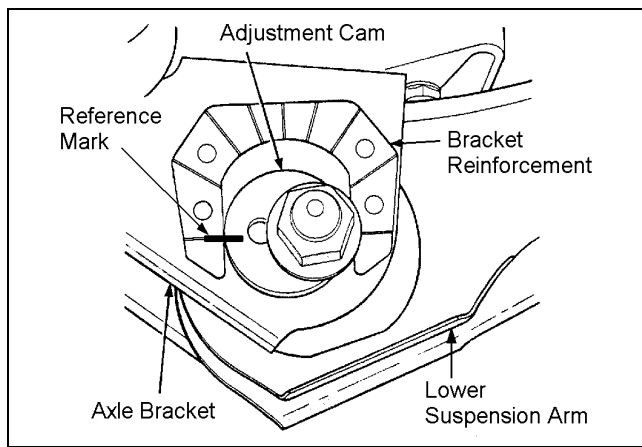

Figure 4
- 2) ☐ If applicable, paint or scribe alignment marks on the adjustment cams and axle brackets for installation reference. See Figure 4.